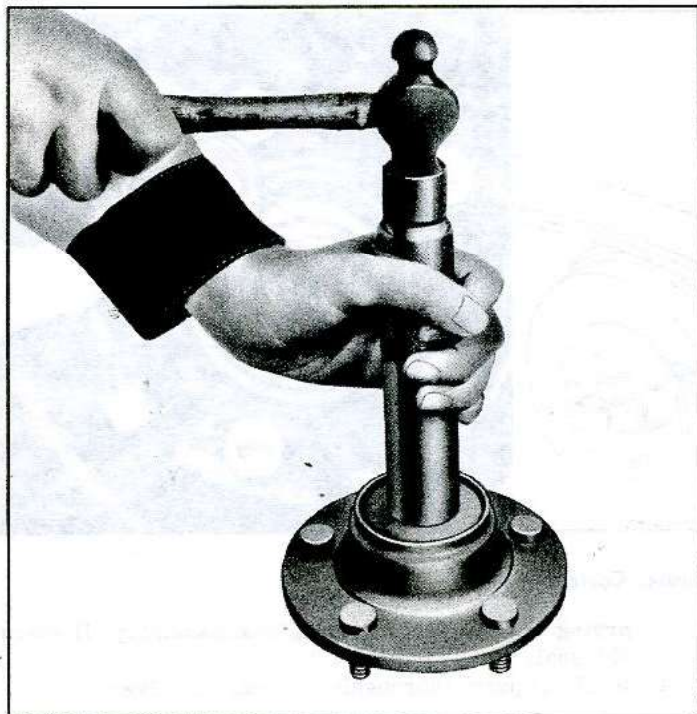

Fig. 3-8—Installing Bearing Cups
3. Install new bearing cup in hub using Tool J-8849 on the outer race and Tool J-8850 on the inner race. Tool J-8092 (Driver Handle) must be used with the above installers (fig. 3-8).